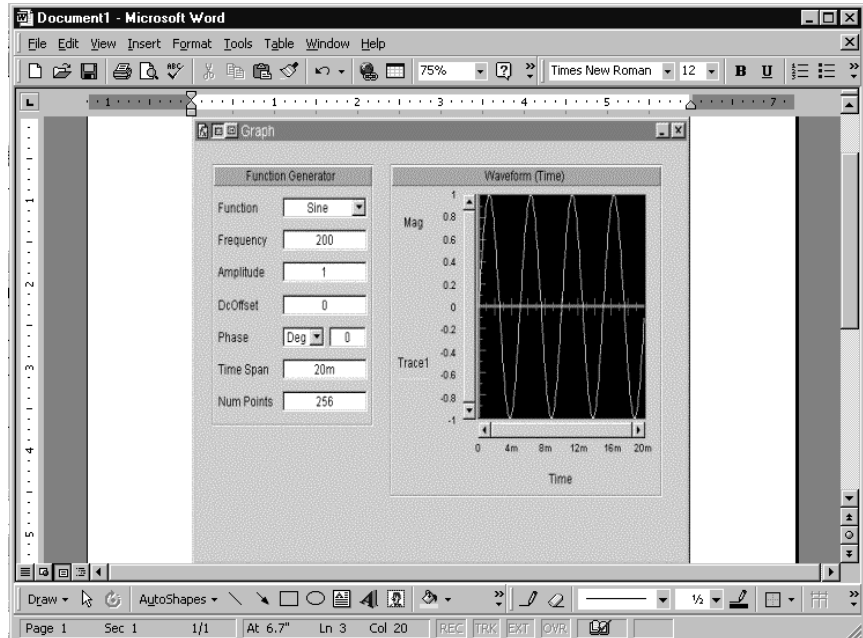

Figure 163 The MS Word Document Created by Lab 6-3
- 10 Run the program. It should look like Figure 163. (If the colors look strange in the screen dump, iconize any open applications, so the PC has a full palette of colors to work with.)